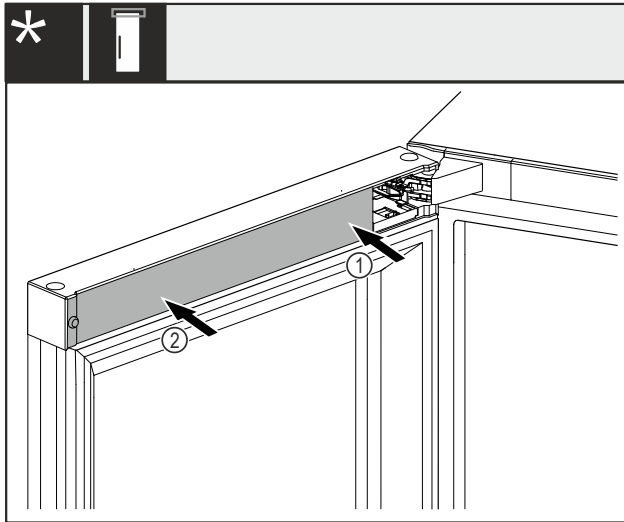

Fig. 50 *
- ▶ Place the cover Fig. 50 (1) on the bearing bracket side first and snap into place.*
- ▶ Fit the cover Fig. 50 (2) on the outside and snap into place.*